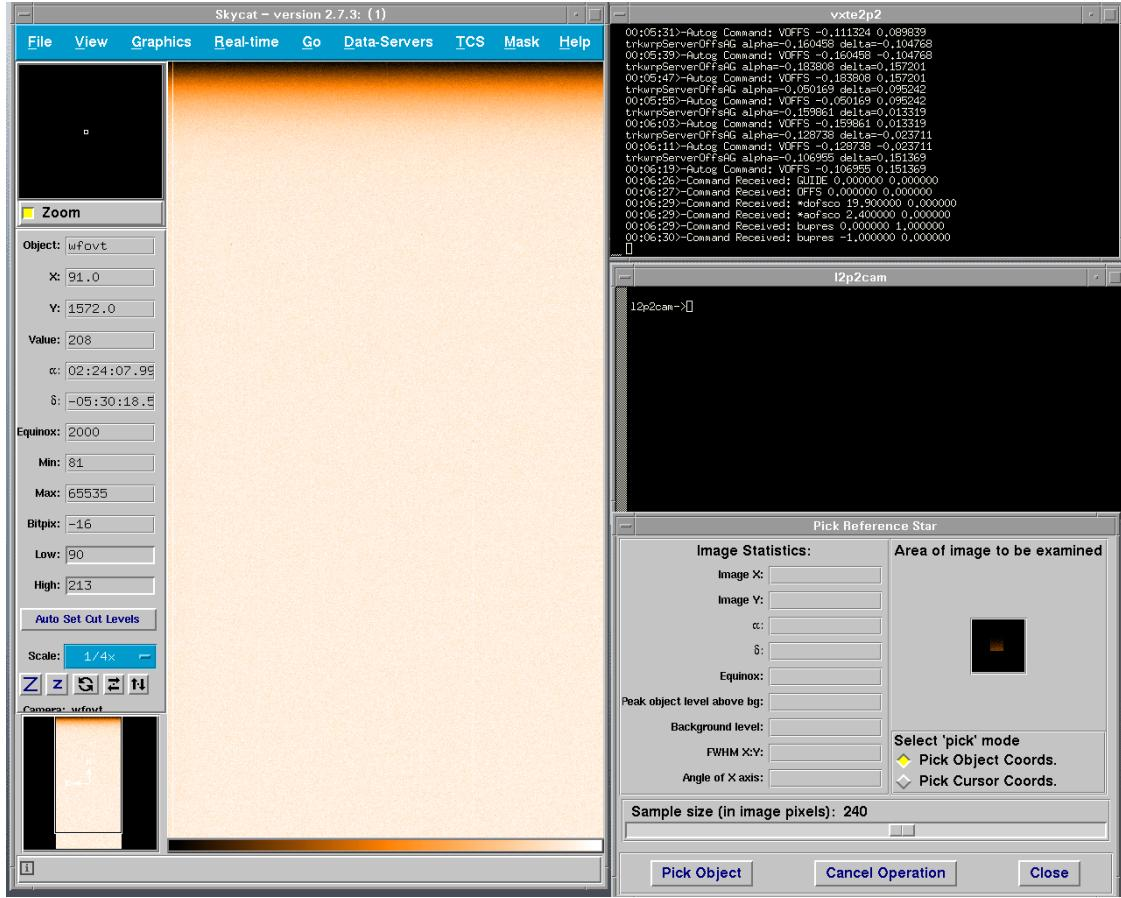

Figure 11.3: The **AG** field is displayed on the **TCS rtD** (left) where the reference star can be picked (using lower right window).
**WFI AG.** The buttons of interest are **Retrieve field** (to probe the **AG** field, displayed in Fig. 11.3, p. 99), **Box to star** (to start the guiding when a guide star has been picked) and **Off** (to turn off the **AG**). Tuning of the **AG** (e.g. integration time) can be done on the Autoguider area of the **TCS** setup panel (Fig. 11.2, p. 98).